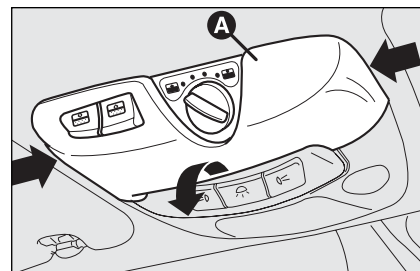

fig. 43
- ☐ remove the front ceiling light **A**-fig. 43 pressing the plastic cover as shown by the arrows